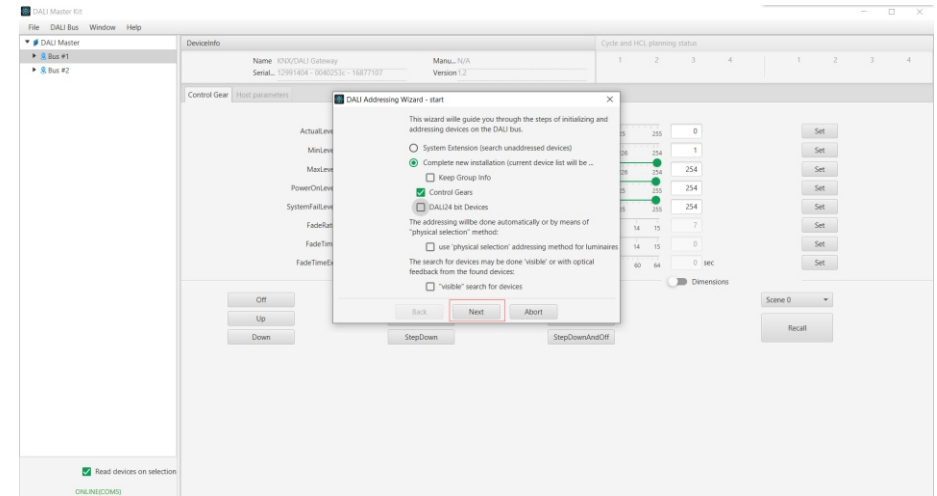

Figure 3
2.3. The DALI addressing setting window will pop up, if it is totally new installation, just choose "Complete new installation" and tick to choose "Control Gears" and leave other options not chosen, then click on "Next" to start addressing as shown in Figure 3.